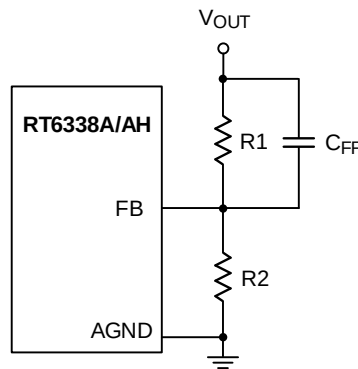
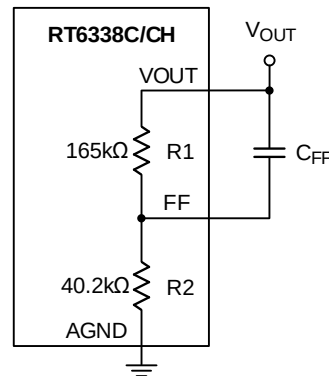
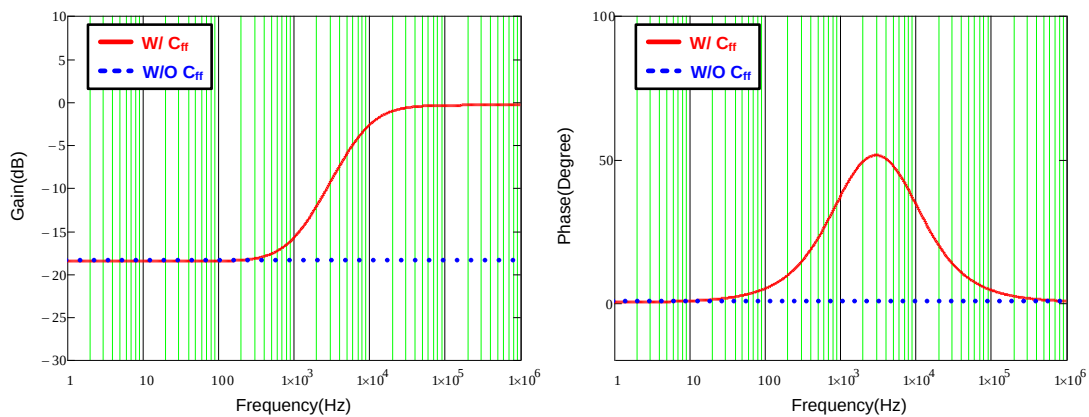

Figure 16. RT6338A/AH Feedback Loop with Feedforward Capacitor
Figure 17. RT6338C/CH Feedback Loop with Feedforward Capacitor
Figure 18. Bode Plot with Different Feedback Loop Conditions
To save time for compensator design and to reduce the layout area through external components, the components of compensator are integrated in the IC. However, this integrated compensator might not be suitable for every load transient specification. Hence, to make RT6338 more adaptable, the feedforward capacitor C_{FF} is used in the feedback loop to improve transient response, as shown in Figure 16 and Figure 17. Figure 18 shows the comparison result of bode plot with different feedback loop conditions. Referring to Figure 18, through connecting a C_{FF} in feedback network, the gain and phase are raised in mid-frequency, which not only extends the bandwidth, but also boosts the phase margin. Moreover, there is also a high frequency pole to eliminate high frequency noise. Consequently, those features of feedforward feedback network allow the RT6338 to have faster response to different load transients.
According to Figure 18, the maximum phase boost that occurs between zero and pole frequencies is defined as maximum phase boost frequency, as expressed in equation (4). Hence, in order to achieve the maximum phase boost by adding C_{FF} in the RT6338, the system's original bandwidth has to be located at maximum phase boost frequency.